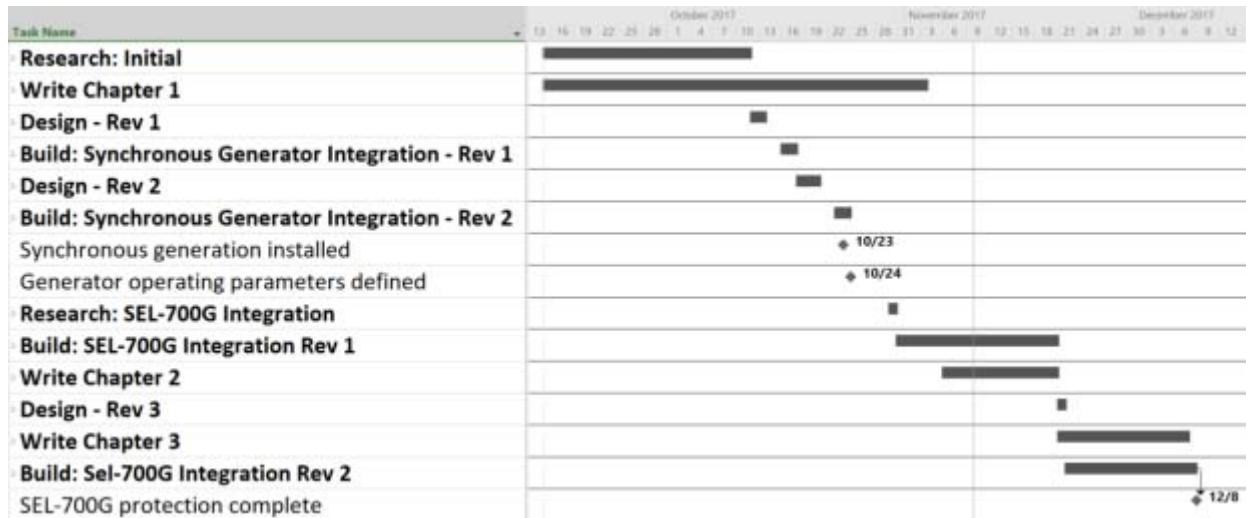
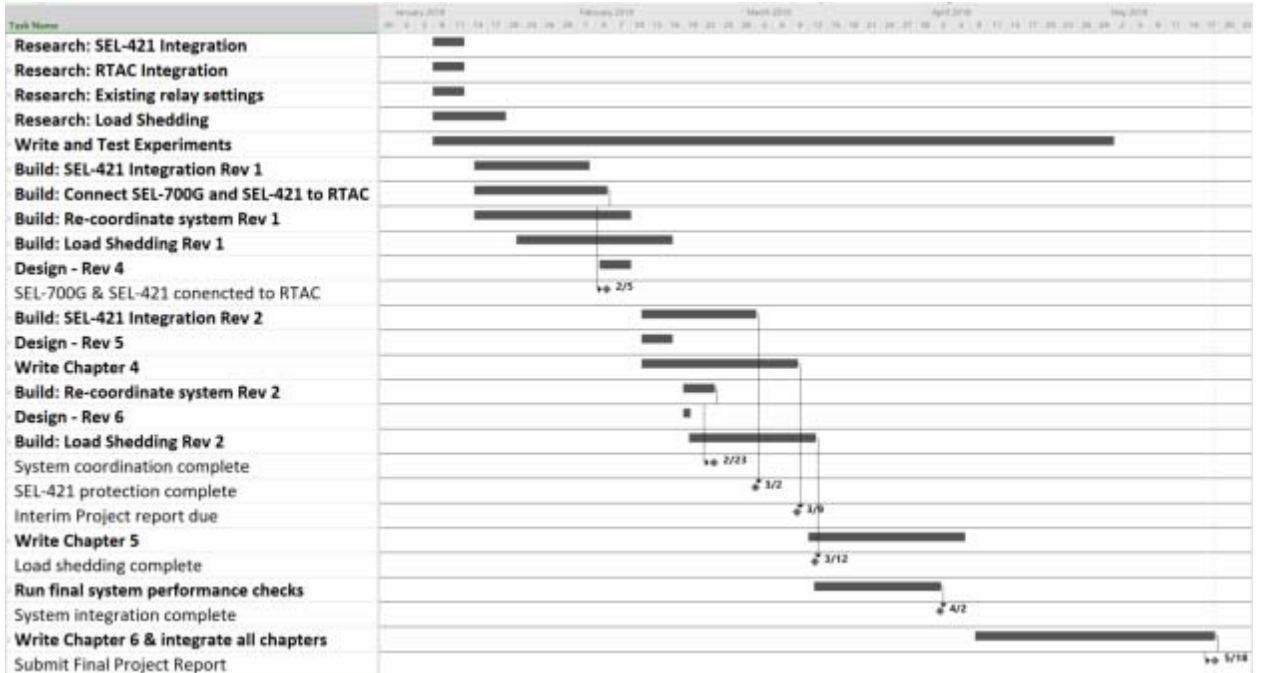

Figure 105: Gantt Chart 9/14/17-12/8/17
Figure 106: Gantt Chart 1/8/18-5/18/18
Figure 105 shows the baseline timeline for the project starting September 14th, 2017 through December 12th, 2017. Figure 106 continues the baseline timeline for the project starting January 8th, 2018 and finishing May 18th, 2018. Task durations are calculated using the PERT method as described in Eq. (2). T_O corresponds to the most optimistic duration, T_L to the most likely, and T_P to the most pessimistic.
Initial project cost estimates appear in Table 22. The project timeline appears in Figure 105 and Figure 106. Generally, microgrids have many long-term positive economic benefits for cities, neighborhoods, businesses, and other activity hubs. By increasing local generation and storage, a microgrid can reduce the energy costs that consumers pay to utilities. While this benefits energy consumers, utilities suffer from an increase in consumer owned microgrids. This could potentially displace utility employees as the energy business model shifts from large scale, centralized utilities to distributed energy resources owned by energy consumers.